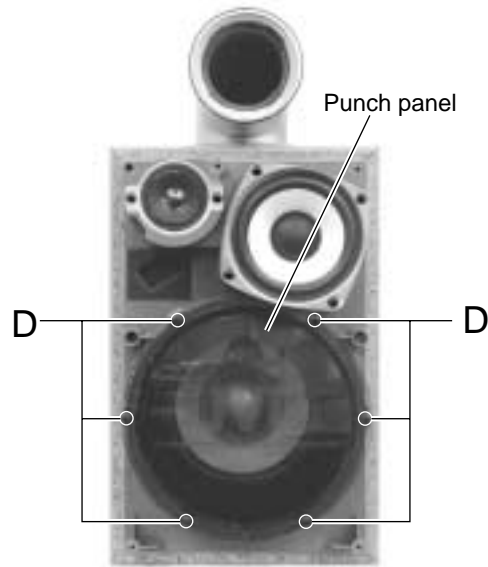

Fig.4
(See Fig.4 and 5)**
9. From the left side face of the chassis assembly, remove the one screw **E** retaining both of the return spring and lock lever (See Fig. 4).
10. By removing the pawl at the section "d" fixing the return spring, dismount the return spring (See Fig.4).
11. Remove the three lock levers (See Fig.4).